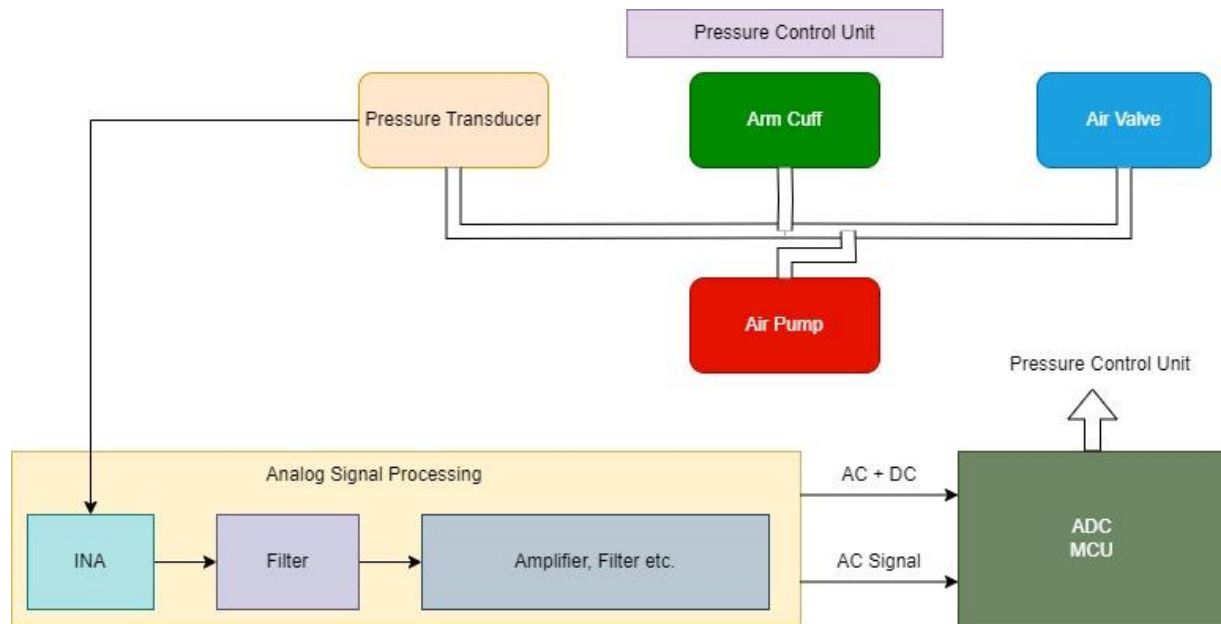
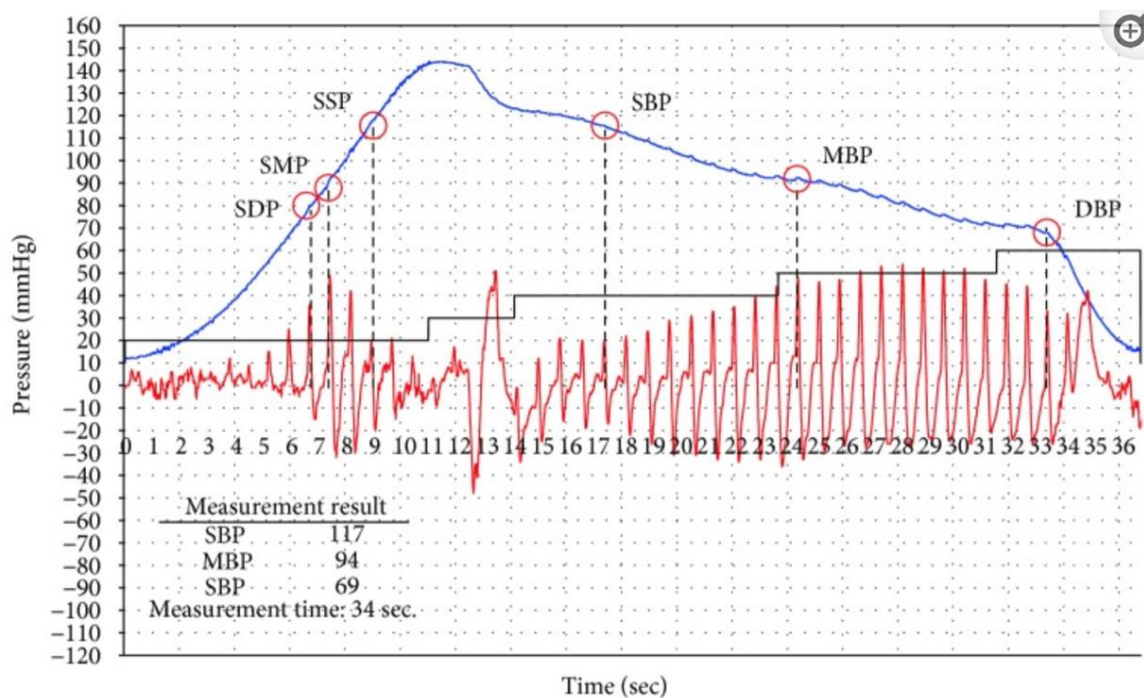

Figure 1: Block Diagram of BPM
Figure 2: Pressure Signal and Oscillometric signal vs time [2]
A basic block diagram of the system is shown below in Figure 1. The measurement will be initiated by pressing a start switch, after which the cuff will inflate to an appropriate pressure and then the pressure will be slowly reduced. The measured pressure curve will look similar to the blue curve in Figure 2. The small ripples in the blue pressure curve as the cuff deflates are critical to determining the blood pressure and will need to be amplified and filtered to produce a curve similar to the red curve in the figure, referred to as the oscillometric pulse. The fundamental frequency of this curve is your heart rate. Both the overall pressure curve and the oscillometric pulse signal need to be amplified and filtered sufficiently so that they can be read into the Arduino through the analog to digital converter (ADC) as accurately as possible. This means that they should span as much of the 0V to 5V range of the Arduino's ADC as possible and any extraneous noise, such as 60Hz interference from the power line, should be reduced to a negligible level. These pressure signals will then be processed using the ideas in reference [2] to compute and display the systolic and diastolic pressures as well as the heart rate. Blood pressure is typically measured in units of millimeters of mercury (mmHg), so you will have to figure out how to convert your measured voltages into mmHg.
length, so you will be given a small c-clamp so that you can reduce the deflation rate as desired. The pressure will be measured by a pressure sensor. All of these components will be connected by plastic tubing, as shown in Figure 1. The pump and valve are 3V devices, so you cannot drive them directly with 5V.
- d. Define systolic, diastolic and mean arterial pressure. Describe at least one procedure for determining these pressures from the pressure curve (blue) and the oscillometric pulse (red in figure 2).
- e. What type of filtering will you need to produce the oscillometric signal (red in figure 2) from the pressure signal out of the INA? The oscillometric signal will likely be corrupted by 60Hz interference and high frequency noises. Explain where you would put the filter 3dB points and what order of filter you would use.
- a. Design the necessary filters and amplifiers to extract the oscillometric signal from the total pressure signal (INA output). There will be high frequency noise and interference, including 60Hz hum, on your signal. Design your filters so that the amplitude of the 60 Hz interference does not exceed 1% of the maximum oscillometric signal amplitude. Show scope traces of the total pressure signal and the oscillometric signal, as in Figure 2. Also, provide simulated and measured frequency responses for each filter and list the frequencies of the 3dB points and the amount of suppression at 60Hz. Explain any discrepancies. (50% of Milestone)